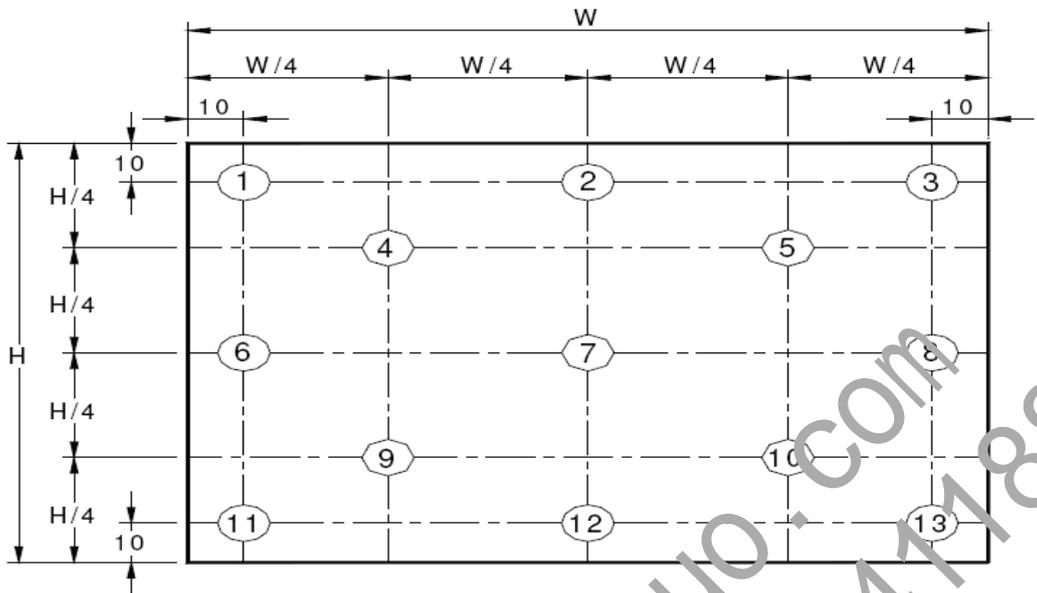

Figure 9. Uniformity Measurement Locations (13 points)
- The White luminance uniformity on LCD surface is then expressed as :  $\Delta Y = \text{Minimum Luminance of 5(or 13) points} / \text{Maximum Luminance of 5(or 13) points}$ . (see Figure 8 and Figure 9).
The White luminance uniformity on LCD surface is then expressed as:  $\Delta Y5$  = Minimum Luminance of five points / Maximum Luminance of five points (see Figure 8)  $\Delta Y13$  = Minimum Luminance of 13 points / Maximum Luminance of 13 points (see Figure 9).